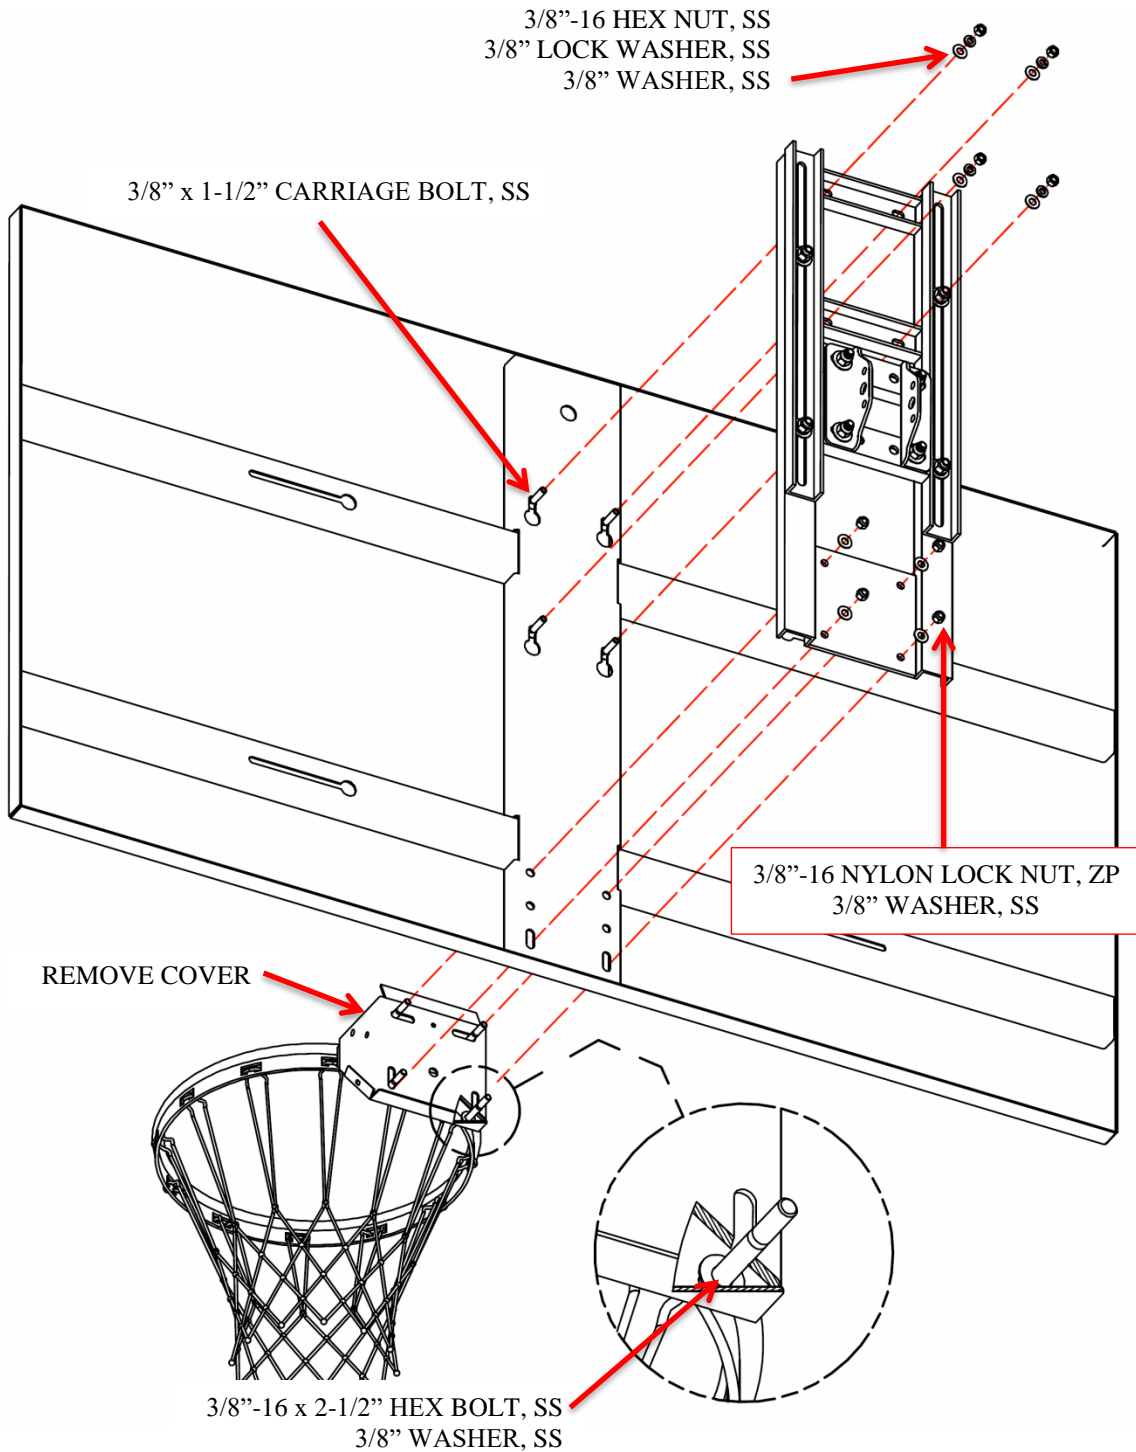
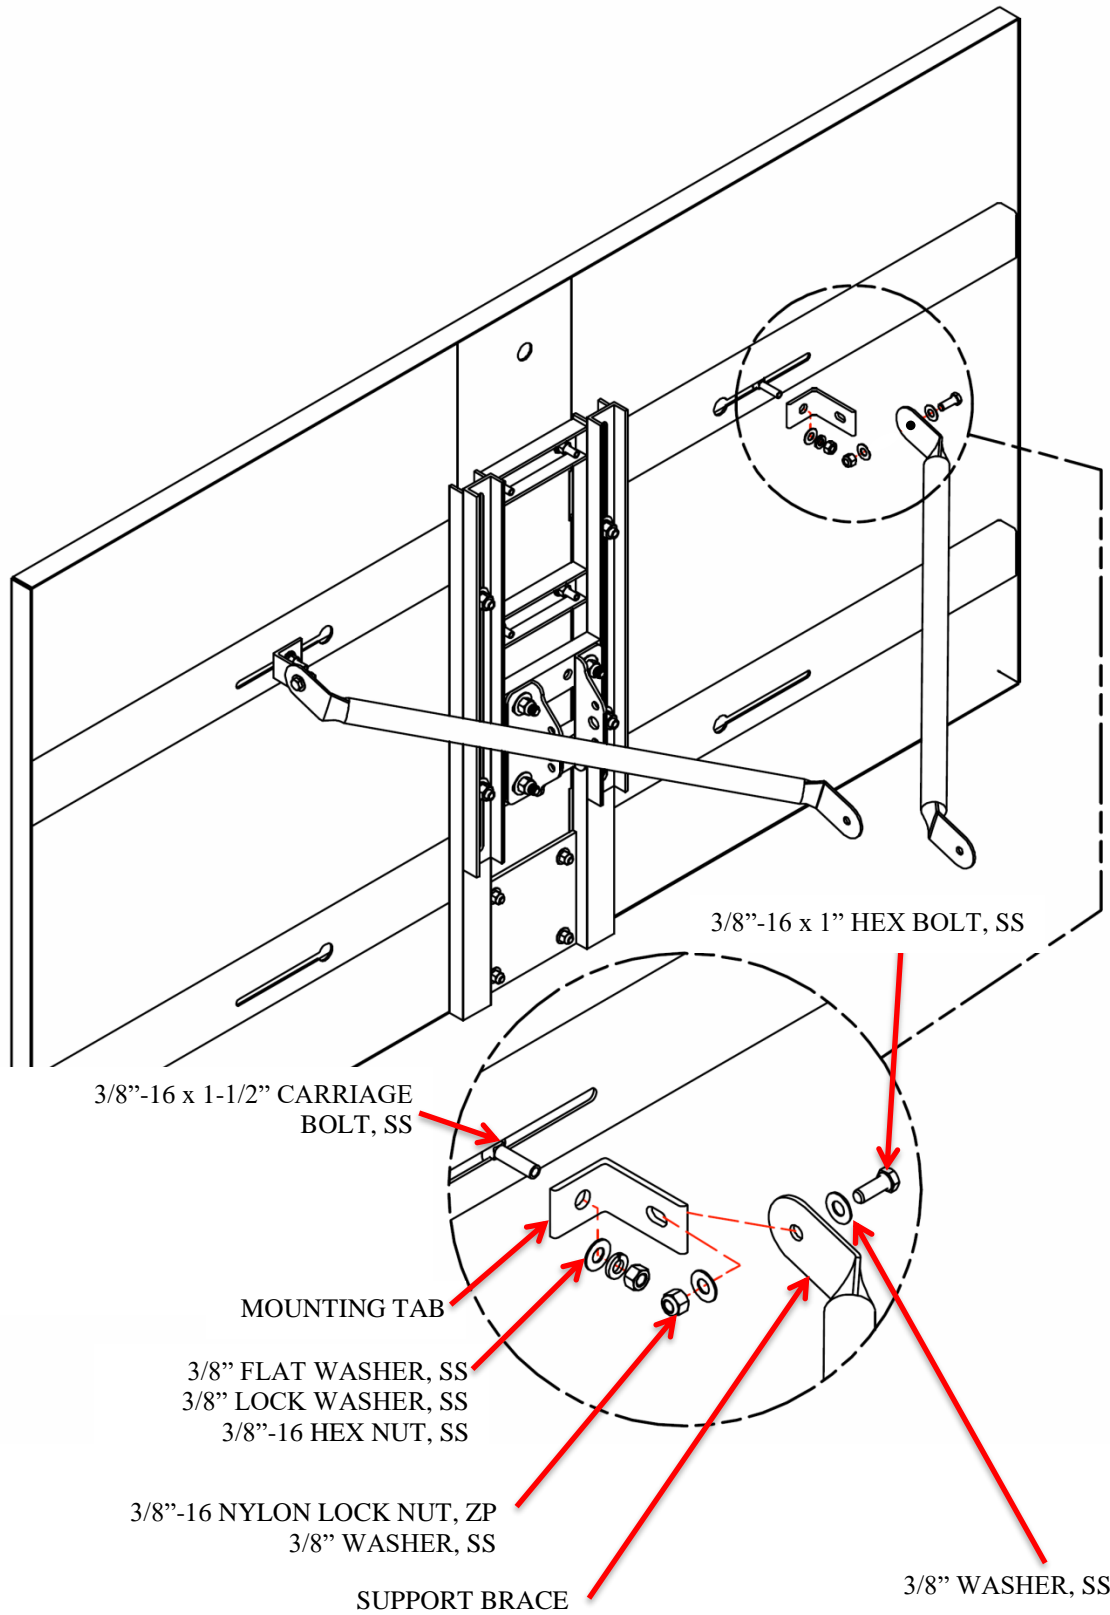

Figure 6
Figure 7
1. Attach the appropriate brace mounting bracket (*Figure 7*) to the back of the backboard (*Figure 6*). The bracket will depend on the backboard ordered. The brackets will either be included with the backboard or board specific in the general kit. The spacing between the right angle brackets of the rectangular steel backboard is approximately 36 inches.